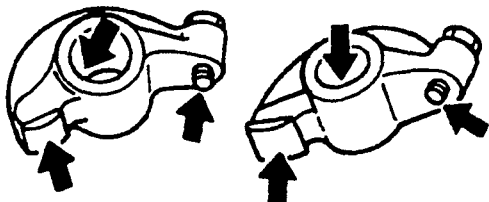

FIGURE 9-10. CHECKING ROCKER ARMS
1. Check the rocker arm surfaces indicated by arrows in Figure 9-10. If severely worn or damaged, replace.
2. Check the rocker for wear and damage at the points indicated by arrows in Figure 9-10. Replace if worn or damaged.